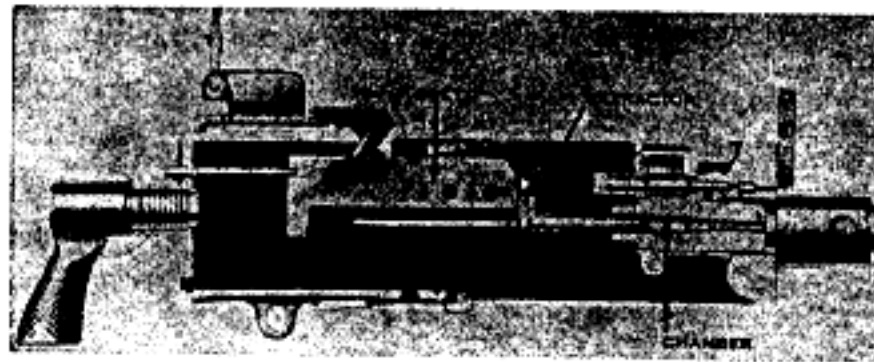

Figure 62. Initial stage of chambering.
a. *First Phase* (fig. 62). After the extractor cam plunger clears the bottom of the extractor feed cam ramp and the bolt is moving forward, the new round with its base in the T-slot is held in line with the chamber by the extractor and ejector until the nose of the cartridge enters the chamber.